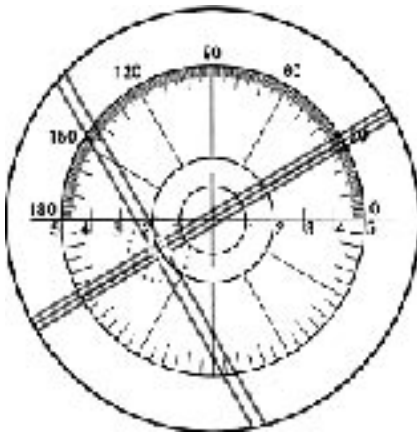
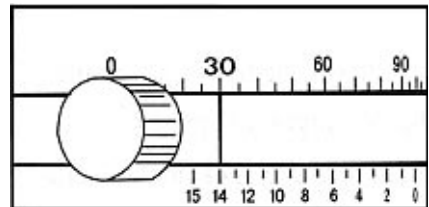

Fig. 18
Fig. 19
- D. Values of prism degree are read on eyepiece dividing plate and prism compensator respectively, and the sum of both values is prism degree of this prism lens (Figs. 18 and 19).
- E. Basal angle of this prism lens is read on prism compensator (Fig.19).
It can be known from Fig. 18 and Fig. 19 that measured data of this prism lens are: prism degree 16^Δ and basal angle 210° .